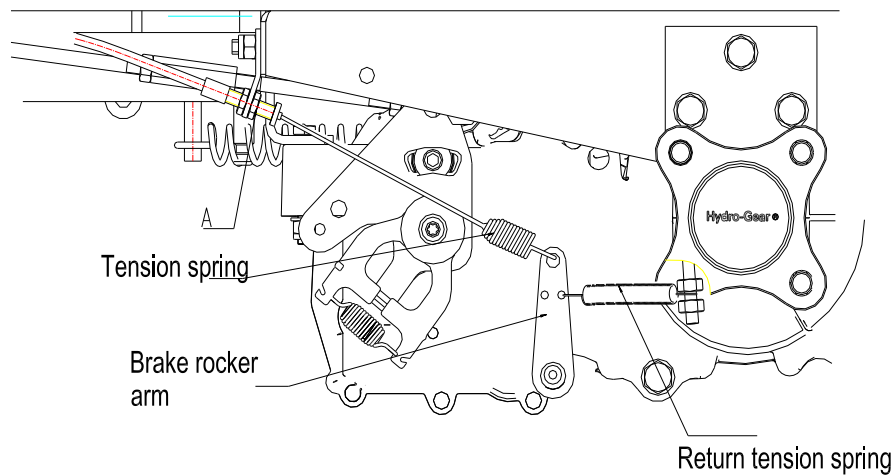

FIG 9 Brake Adjustment
- b) (See FIG 9) The spring force is preset. Fine tuning can be done by adjusting the nuts at point A.